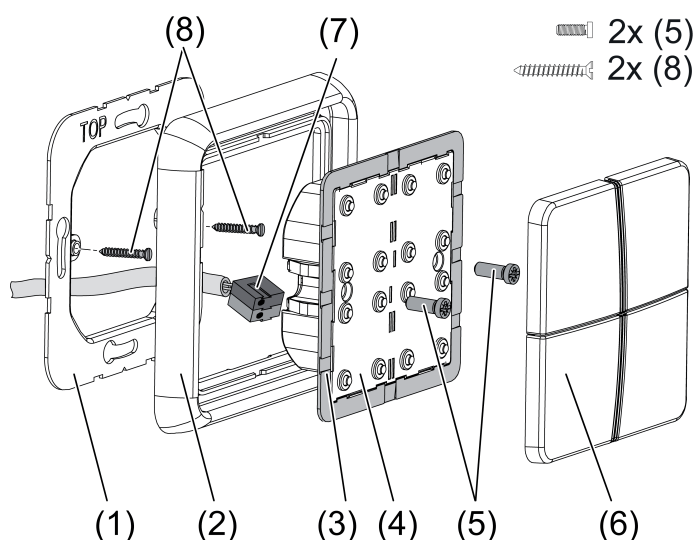

Figure 1: Mounting the push-button module
- With the adapter frame (3) in the correct orientation, snap it from the front onto the pushbutton module (4) (figure 1). Note marking **TOP**.
- Mount supporting frame (1) or (14) in the correct orientation on an appliance box. Note marking **TOP**; marking **A** or **B** in front. Use only the enclosed box screws (8).
- Push frame (2) onto supporting frame.
- Mount push-button sensor expansion module (15) preferably below. Route connecting cable (16) between supporting frame and intermediate web.
- Push-button expansion module: Insert connecting cable (16) in the correct orientation into slot (17) in the push-button module. Do not crimp the connecting cable (figure 1).
- Connect push-button module (4) to the KNX using KNX connecting terminal (7) and push onto the supporting frame.
- Fasten pushbutton module(s) to supporting frame using the enclosed plastic screws (5). Tighten the plastic screws only lightly.
- Before mounting the buttons (6), load the physical address into the device (see chapter 4.2. Commissioning).